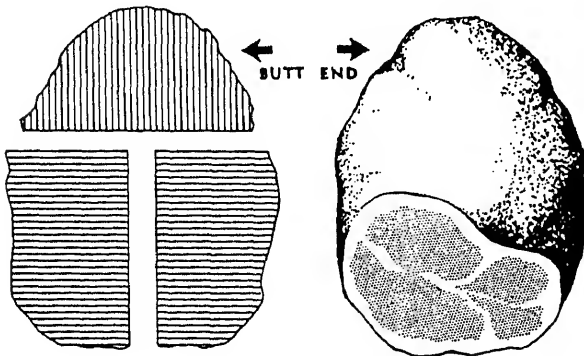

Figure 8-4.—Slicing boneless ham.
- Cut the slices lengthwise with the grain, across the butt section. Cut the other sections across the grain as shown in figure 8-4.